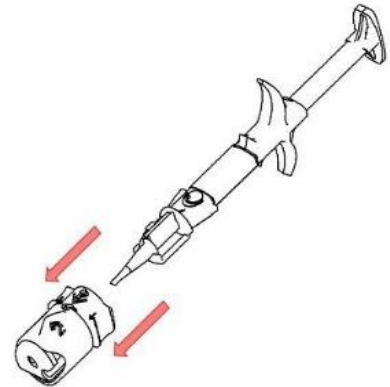

Fig. 3
- Remove the adapter together with the rotatable ring as indicated by '4' (Fig. 3) by pulling it off and discard it.